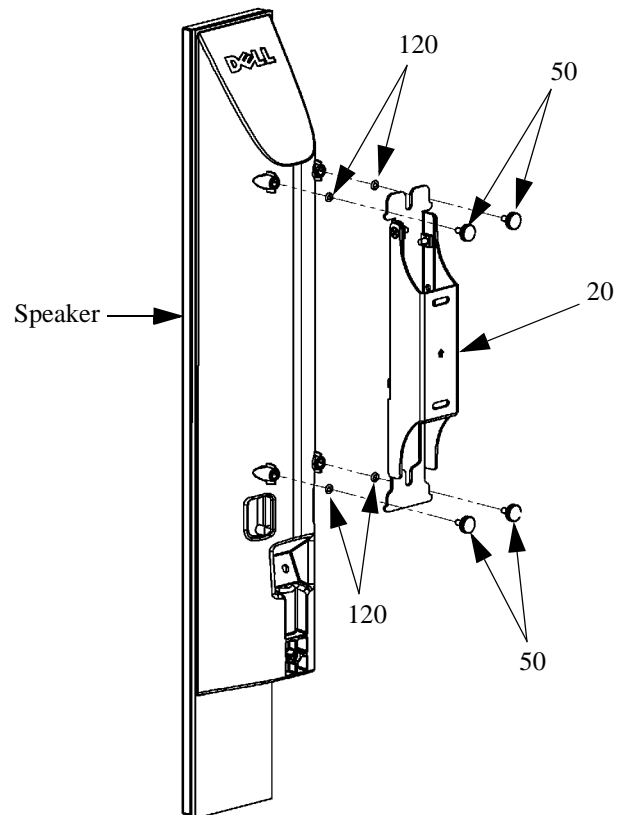

Figure 13: Install Speaker Using Four Thumb Screws
1. Install four thumb screws (60) into the threaded holes on the speaker. Do not tighten the thumb screws at this point. (see Figure 13).